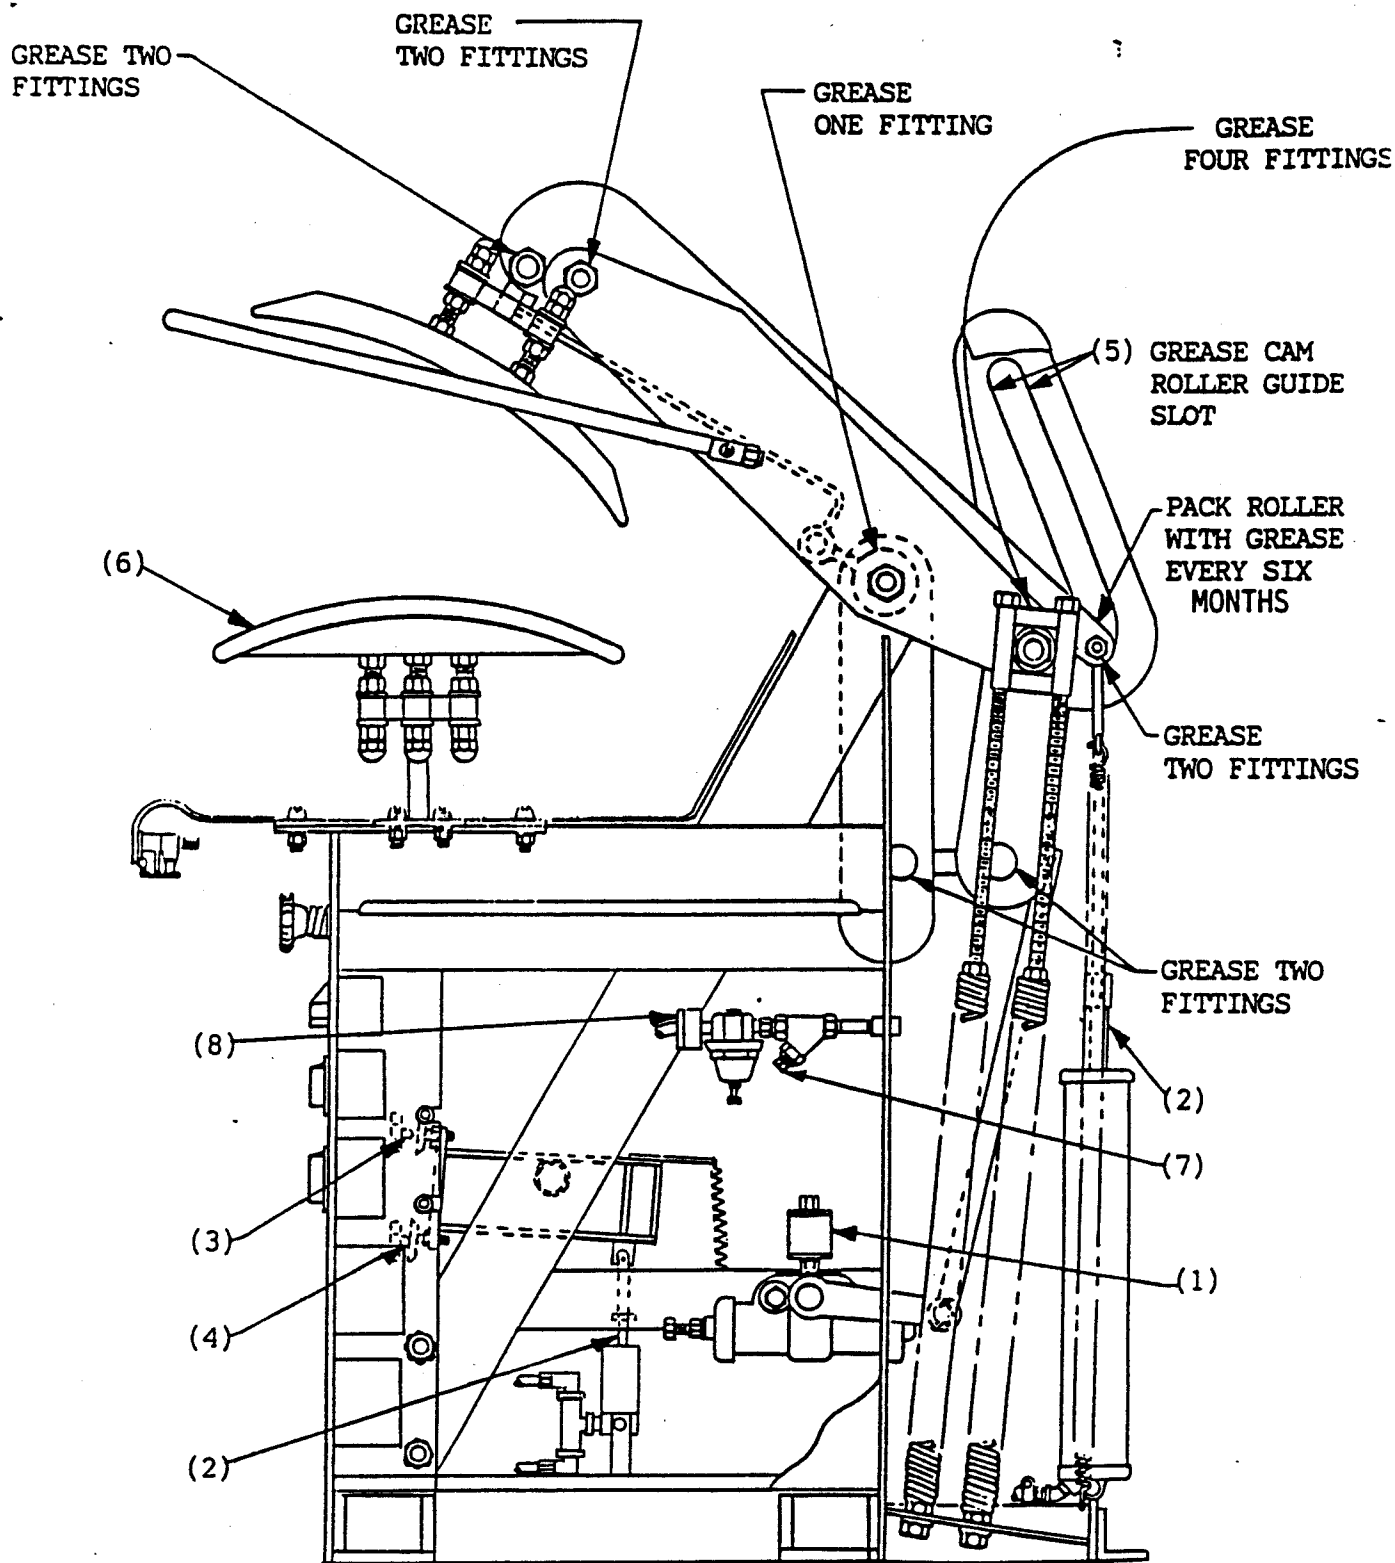

Figure 8
(Numbers in parenthesis refer to Figure 8, sheet 4-7)
1. Grease all grease fittings. (There are 13 fittings, see Fig.8)
2. Inspect buck padding (6). Replace if worn or frayed.